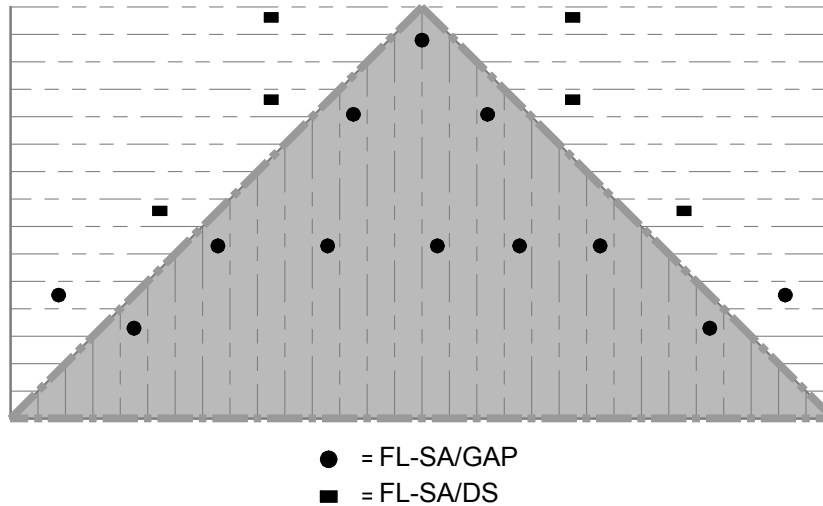

FIGURE 22: HYDRAULIC CALCULATIONS REQUIRED FOR RE @ HIP (FRAMING MEMBERS PARALLEL TO SLOPE)
- Calculate all sprinklers within the hip area shown shaded. See Figure 22.